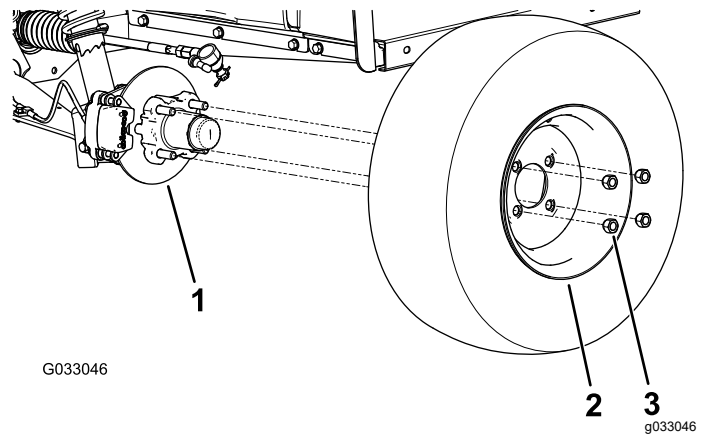

Figure 23
2. Remove the 4 lug nuts that secure the wheel to the hub (Figure 23).
4. Align the holes in the wheel to the studs of the hub and assemble the wheel to the hub with the valve stem outward (Figure 23).
5. Secure the wheel to the hub using the lug nuts (Figure 23).